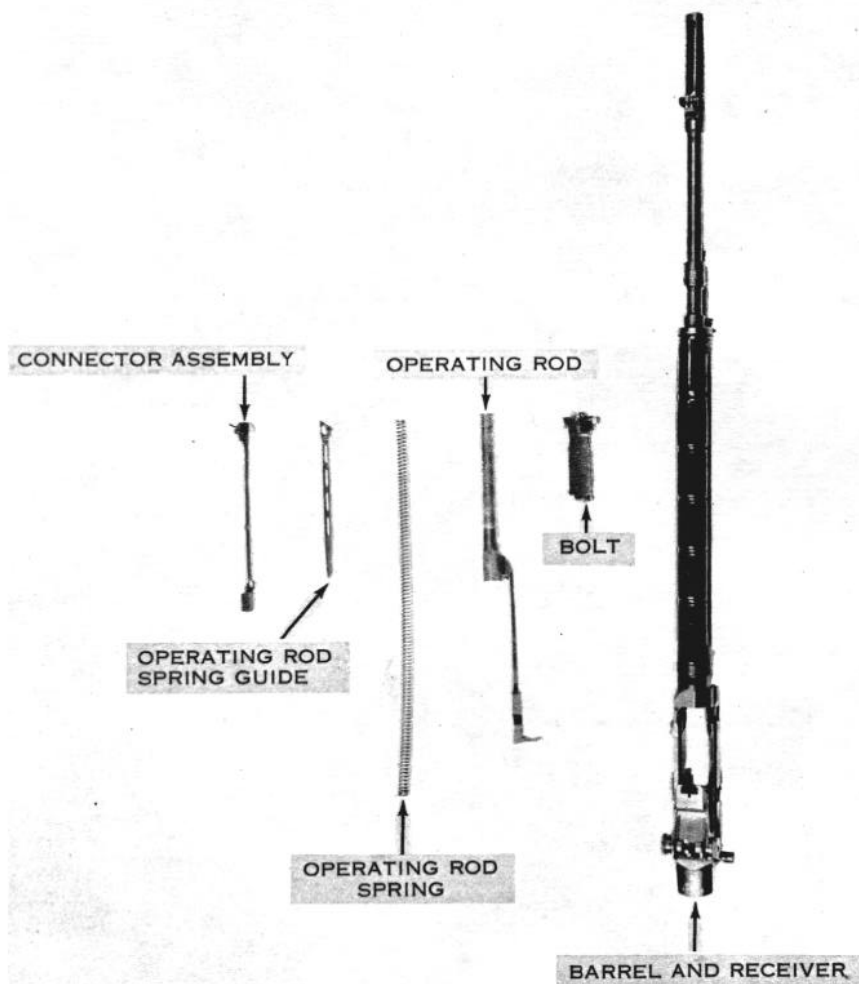

Figure 15. Parts of the barrel and receiver group in the order of disassembly.
e. *Rifle Field Stripped.* The parts of the barrel and receiver group in their order of disassembly are shown in figure 15.